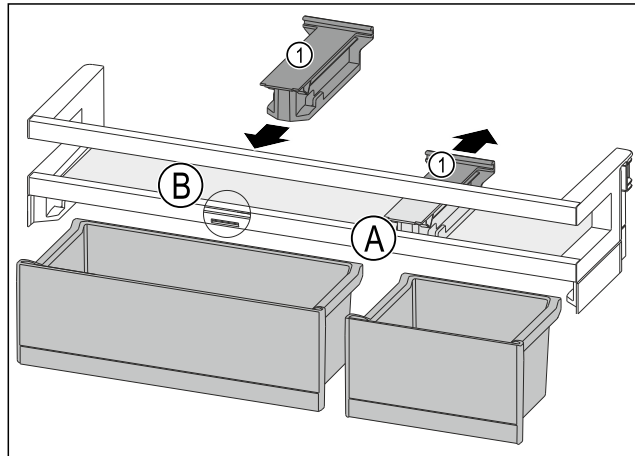

Fig. 85
- ▶ Take off the holding part Fig. 85 (1) in position Fig. 85 (A) backwards.
- ▶ Insert the holding part Fig. 85 (1) in position Fig. 85 (B).